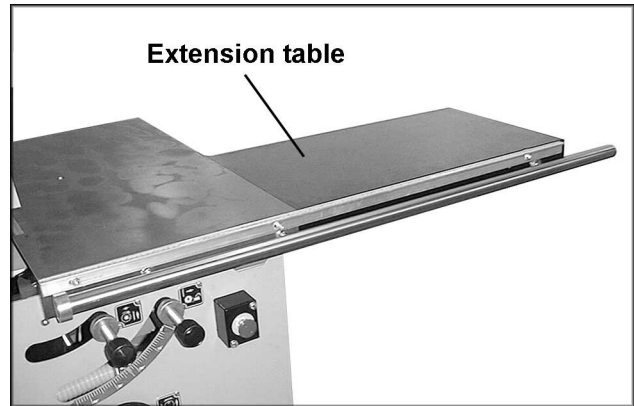

FIGURE 7
1. Mount the right extension to the edge of the cast iron table (Fig. 7) with two M8 x 25 cap screws and two M8 flat washers. Do not tighten yet.
2. Position the two brackets (Fig. 7) so that the crosscut table will easily ride along the flat bar on the front edge of the sliding table.